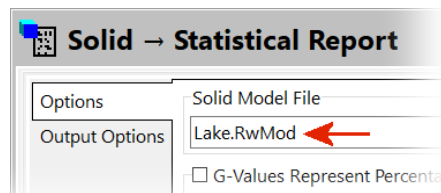

Figure 24
- Enter “Lake.RwMod” for the name of the Solid Model File within the Solid -> Statistical Report program menu (Figure 24) and press the Continue button.